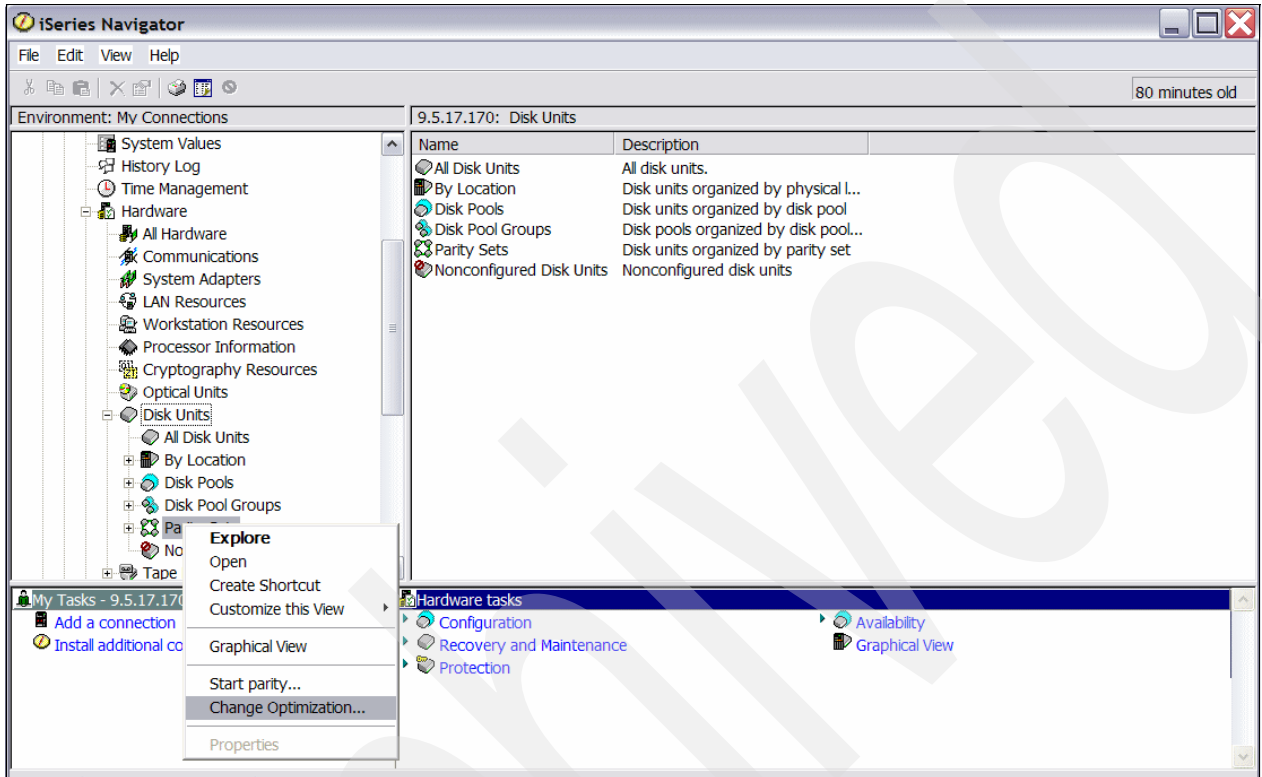

Figure 3-1 Changing RAID optimization using iSeries Navigator
1. In iSeries Navigator, expand **Disk Units**, right-click **Parity Sets** and select **Change Optimization**, as shown in Figure 3-1.